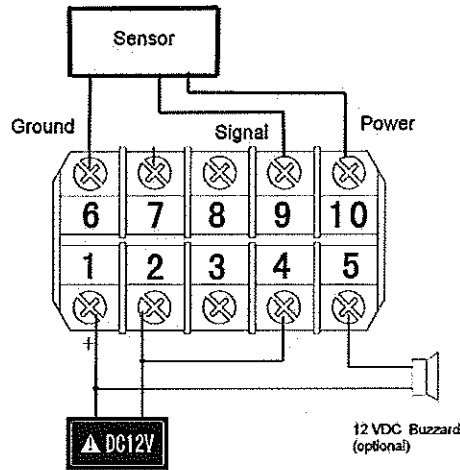

Fig 1. Wiring diagram.
1) Wire the sensor as shown in Fig 1. Connecting power lead (RED) to terminal 10, signal lead (Green) to terminal 9, and around lead (YELLOW) to terminal 6. The 12V DC buzzard is optional.